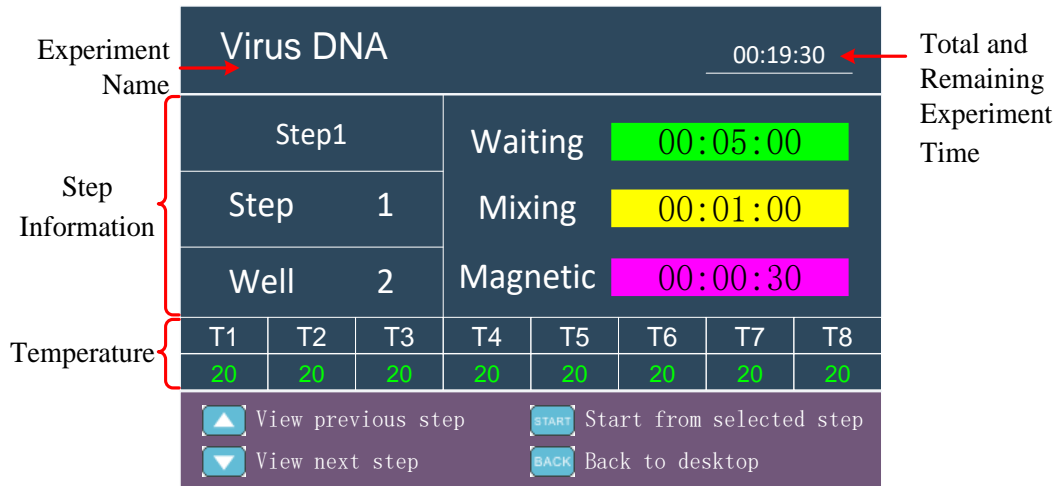
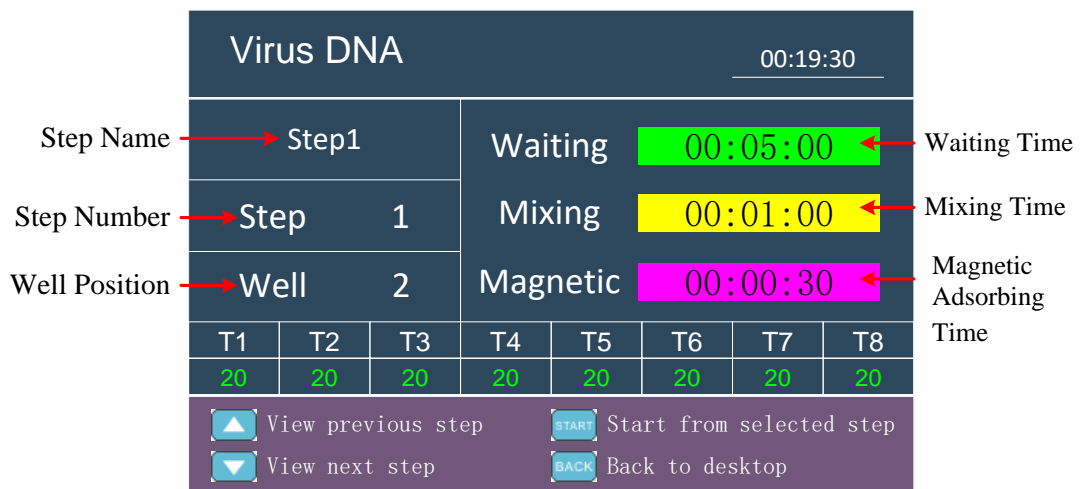

Figure 4-5 Instrument System Software - Experiment Running Interface
Figure 4-6 Experiment Running Interface - Step Information
After selecting a certain experimental program on the experiment selection interface, user could press  to enter the experiment running interface, as shown in the figure 4-5.
- ▶ The selected experiment program will stand-by for running and the detailed information (Experiment name; Step information; Temperature; Total and remaining experiment time) of the selected experiment program will be displayed. And the step information including: step name, step number, well position, waiting time, mixing time and magnetic adsorbing time, as shown in figure 4-6.
4. Press  or  to select a certain experiment program. Press  to enter the experiment running interface, as shown in the figure 4-5 and the figure 4-6.